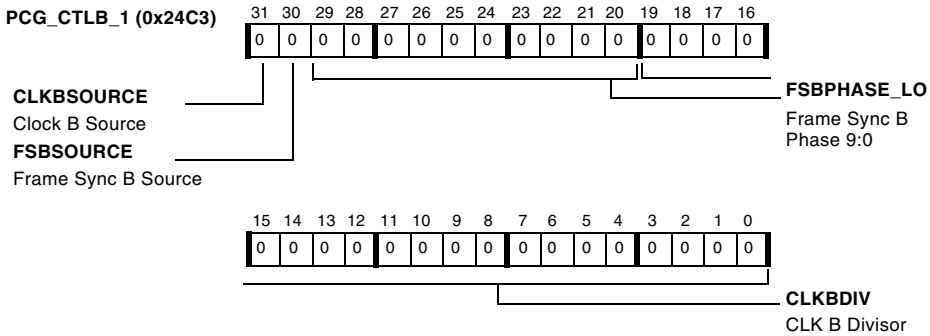

Figure A-59. PCG\_CTLB\_1 Register
- PCG\_CTLB\_1, described in Figure A-59